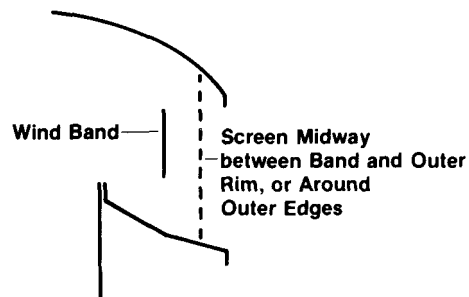

FIG. 4 PROPER LOCATION OF SCREEN (SA) IN CT TOP
1. PLACE the mesh between dome and skirt of top. It should be midway between the inner wind band and the outer edges. See Fig. 4. Do not place the screen directly against the wind band.